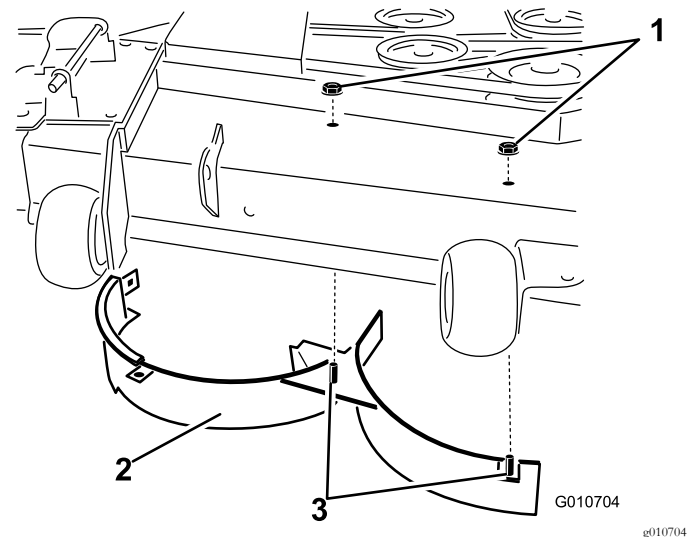

Figure 30
8. Remove the 2 locknuts (5/16 inch) to securing the welded posts of the right baffle to the top of the mower deck at the center and right of center positions (Figure 30).